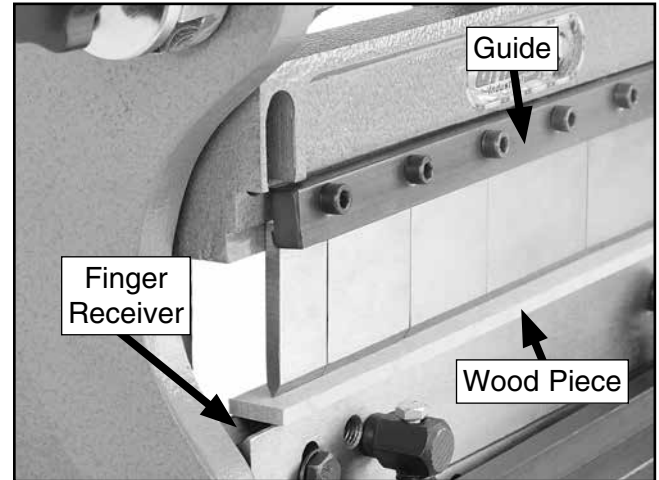

Figure 45. Seating fingers with a piece of wood that is flat on both sides.
4. Place a 1/8"-1/4" piece of wood that is as long as the finger receiver onto the receiver (see **Figure 45**). Wood must be perfectly flat on each side for procedure.